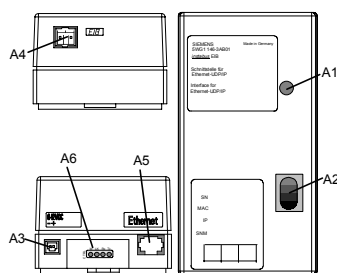

Figure 1: Location of the display and operator elements
- Plug bus plug into bus socket A4 (figure 1).
- Plug the RJ45 connector of the Ethernet cable into the socket labeled Ethernet (A5, figure 1).
- Plug the power supply connector into the socket labeled 6-12VDC (A3, figure 1).